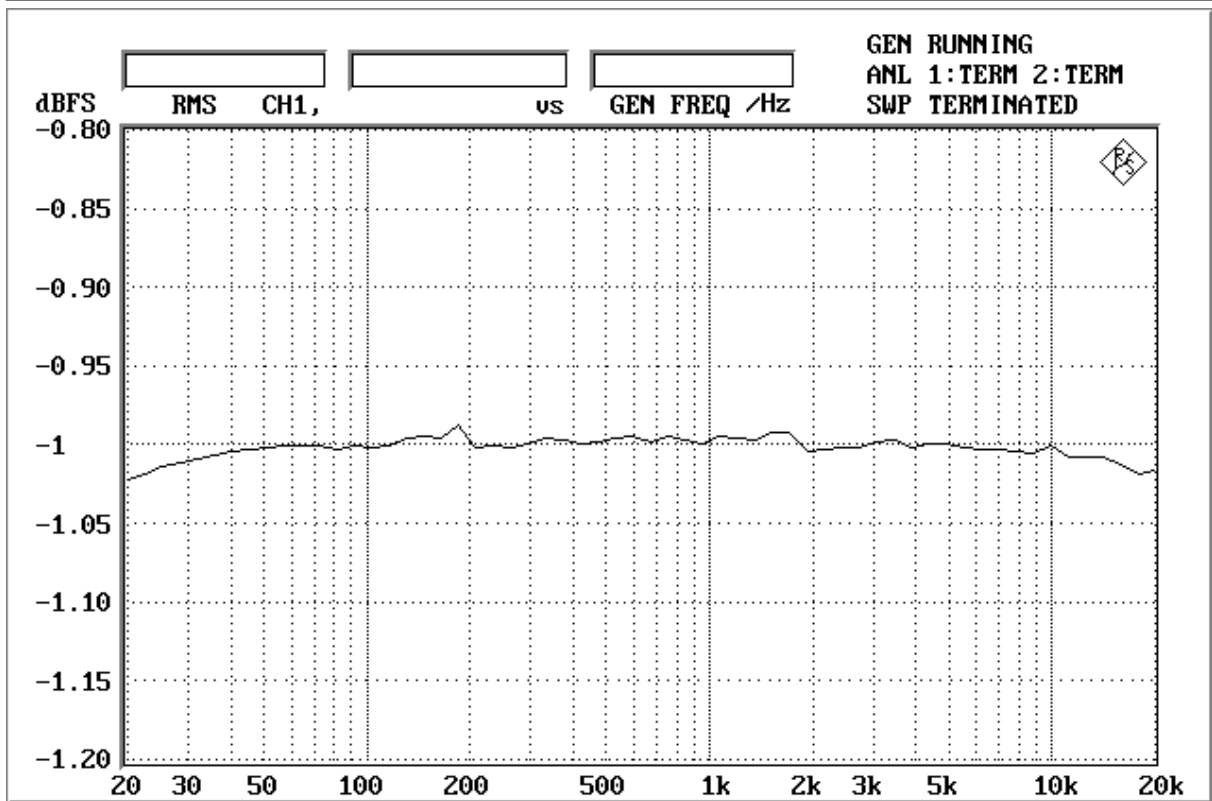

Fig. 8 Frequency response
- Figure 8. Frequency Response